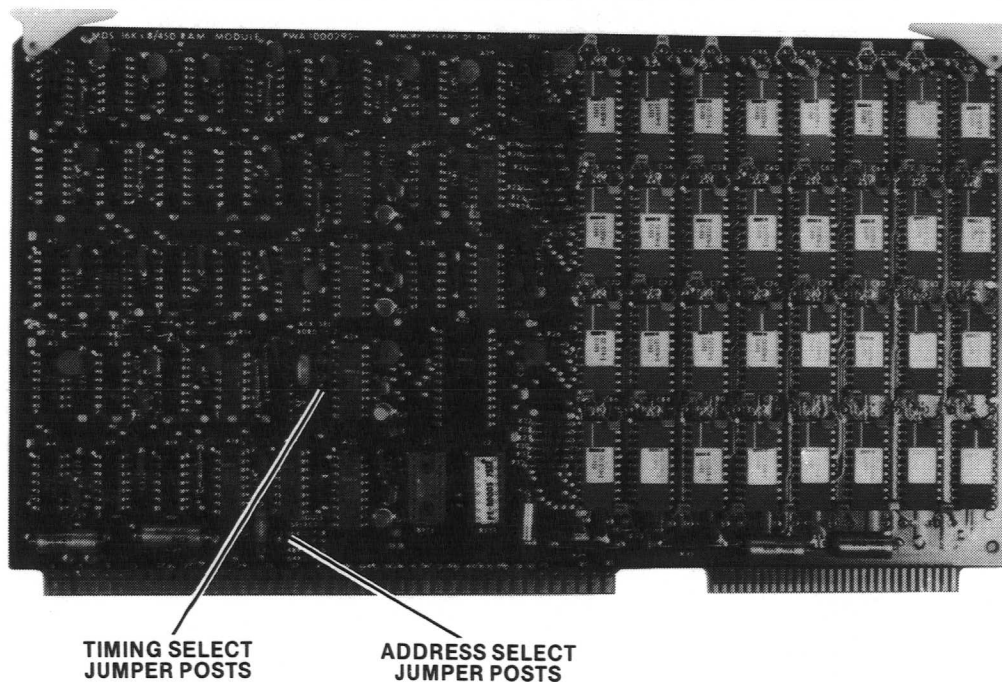

Figure 4-6. iSBC-016™ 16K RAM Board Jumper Post Locations
1. Refer to figure 4-6 and configure jumper post shorting plugs as follows to select desired address block and timing: